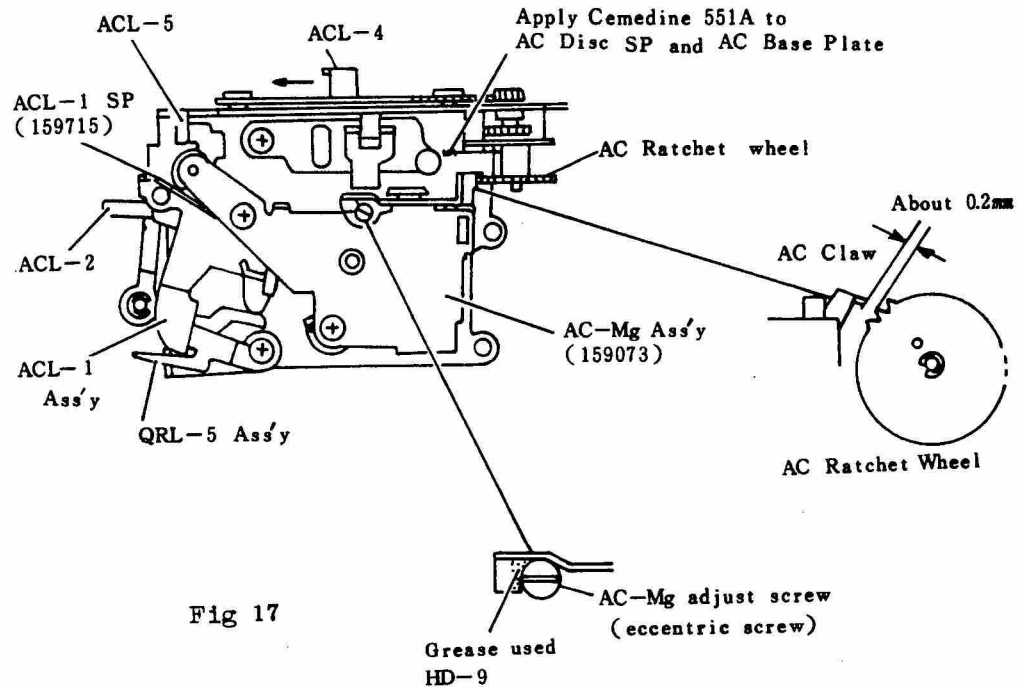

Fig 17
- a) Apply Cemedine 551A to AC Disc Spring and AC Base Plate. ((Fig 17)).
(5) Clearance of AC Claw and AC Ratchet Wheel adjustment.
- (Fig 17).
- a) Remove the ACL-1 Spring (2)(159819).
- c) Turning the ACL-4 in the direction of arrow as shown in (Fig 17) by finger and hold it.